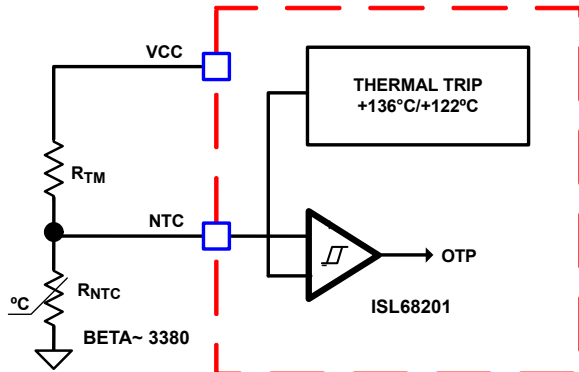
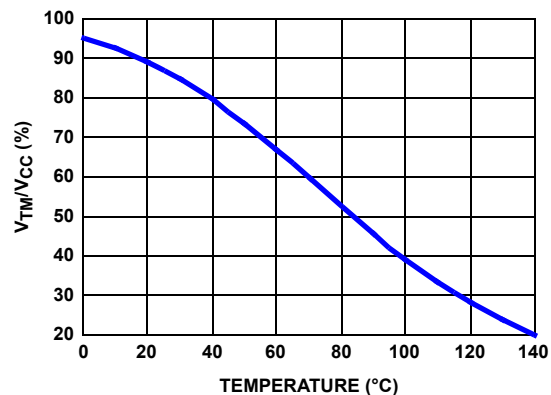

FIGURE 16. BLOCK DIAGRAM OF THERMAL MONITORING AND PROTECTION
FIGURE 18. THE RATIO OF TM VOLTAGE TO NTC TEMPERATURE WITH RECOMMENDED PART
The thermal monitoring function block diagram is shown in Figure 16 on page 18. One NTC resistor should be placed close to the respective power stage of the voltage regulator VR to sense the operational temperature, and pull-up resistors are needed to form the voltage dividers for the NTC pin. As the temperature of the power stage increases, the resistance of the NTC reduces, resulting in the reduced voltage at the NTC pin. Figure 18 on page 18 shows the TM voltage over the temperature for a typical design with a recommended 10kΩ NTC (P/N: NCP15XH103J03RC from Murata, $\beta = 3380$) and 1.54kΩ resistor R_{TM} . It is recommended to use those resistors for accurate temperature compensation because the internal thermal digital code is developed based on these two components. If a different value is used, the temperature coefficient must be close to 3380 and R_{TM} must be scaled accordingly. For instance, if $NTC = 20k\Omega$ ($\beta = 3380$), then R_{TM} should be $20k\Omega / 10k\Omega * 1.54k\Omega = 3.08k\Omega$.
Based on the V_{CC} voltage, the ISL68201 converts the NTC pin voltage to a digital signal for temperature compensation. With the nonlinear A/D converter of the ISL68201, the NTC digital signal is linearly proportional to the NTC temperature. For accurate temperature compensation, the ratio of the NTC voltage to the NTC temperature of the practical design should be similar to that in Figure 18.
1. Properly choose the voltage divider for the NTC pin to match the NTC voltage vs temperature curve with the recommended curve in Figure 18 on page 18.
As shown in Figure 16 on page 18, there is a comparator with hysteresis to compare the NTC pin voltage to the threshold set. When the NTC pin voltage is lower than 22.31% of the V_{CC} voltage (typically +136°C), it triggers Over-Temperature Protection (OTP) and shuts down the ISL68201. When the NTC pin voltage is above 27.79% of the V_{CC} voltage (typically +122.4°C), the ISL68201 resumes normal operation. When an OTP fault is declared, the controller forces the LGATE and UGATE gate-driver outputs low.